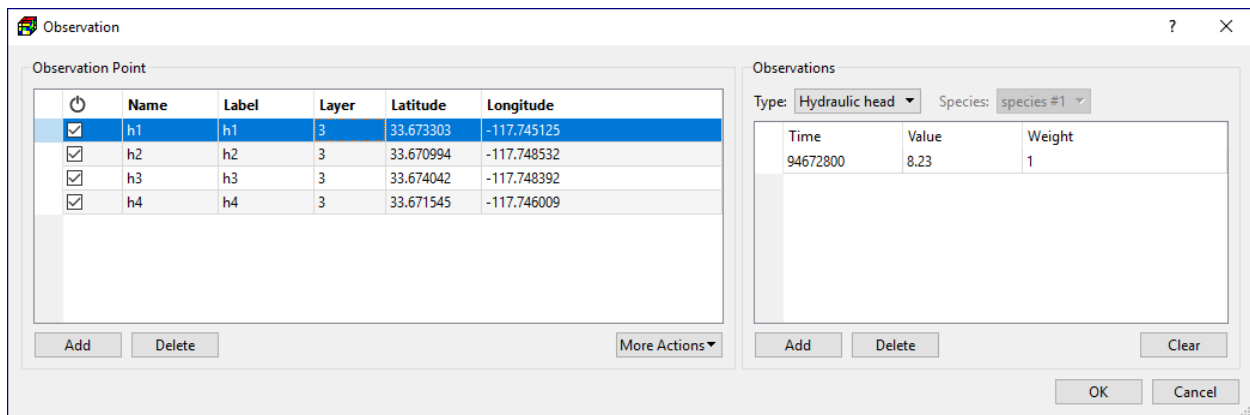

Figure 18. The Observation dialog box
1. Right-click on Input Data > Observation Points of the model item on the TOC and select Edit Data from the popup menu to display the Observation dialog box (Figure 18). When the dialog box is opened the first time, its tables are empty.
2. The Observation Point group on the left-hand side of the dialog box displays the observation points and their properties. Click the Add button of this group four times to add four observation points to the table. Enter the names and coordinates of the observation points as shown in Figure 18.
- Click the Add button to add a record to the Observation table and enter the values as shown in Figure 18. Time is set to 94672800 because for a steady-state model PEST is instructed to compare the results at the end of the simulation with the observed values.